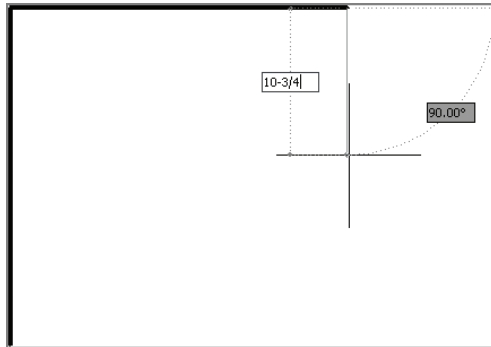

FIGURE 3.5 Drawing a line using Ortho mode and direct distance entry
4. Move the cursor down from the last point, type **10-3/4"** (or **240** in metric), and press Enter. Ortho mode constrains the line vertically and typing in an explicit value obviates the need for Snap (see Figure 3.5). You don't have to use the comma from Cartesian coordinates or the angle symbol from polar coordinates with direct distance entry.